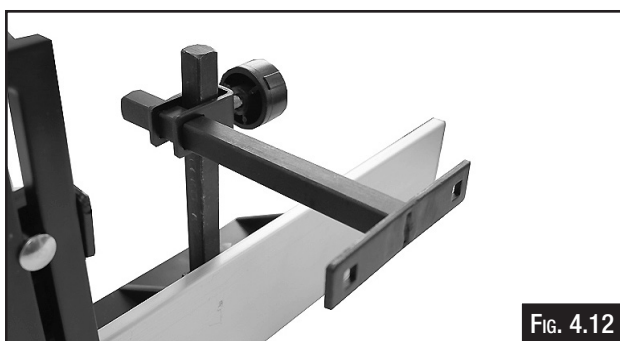

FIG. 4.12
4. Slide the clamp over the square support as shown in Fig. 4.12.